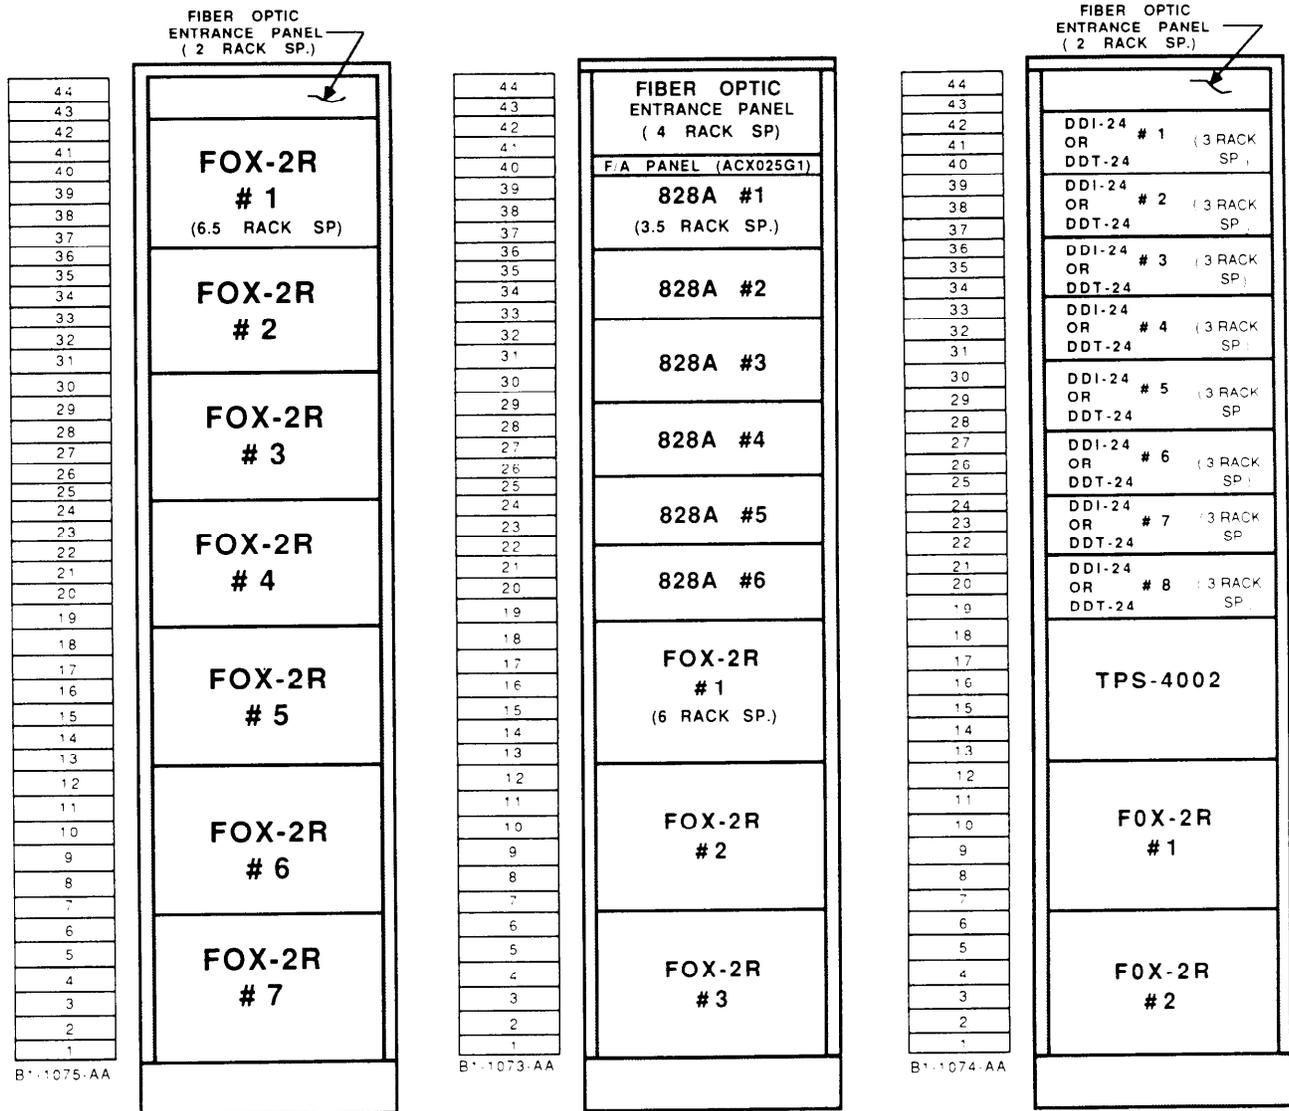

Figure 1-3. FOX-2R Rack Configurations
4.15 A fully loaded FOX-2R unit, equipped for 1:1 protection, is configured as a single shelf unit which occupies 10.4 inches of rack space (equivalent to 6 rack mount spaces of 1.75" each) in a standard 19-inch equipment rack. Mounting ear extensions allow for 23-inch rack mounting if required. Full dimensions are: 19" wide x 10.4" high x 12" deep. Up to seven FOX-2Rs can be mounted into a standard 7-foot bay. Figure 1-3 illustrates various bay configurations for the FOX-2R used in conjunction with other Telco Systems Fiber Optics Corp. and Telco Systems Network Access Corp. Products.